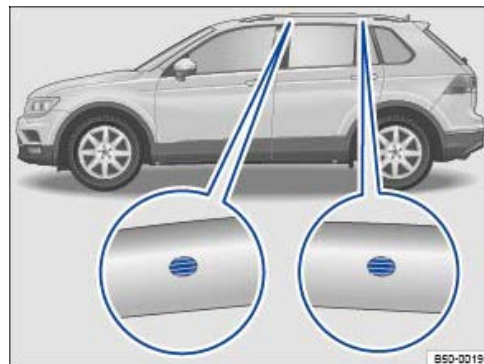

Fig. 224 Vehicle with roof railings: attachment points for the roof carrier.
The attaching holes are located on the inside of the roof railing → *Fig. 224* (close-ups).
- The mounts may only be attached at the markings shown in the illustration → *Fig. 224*.